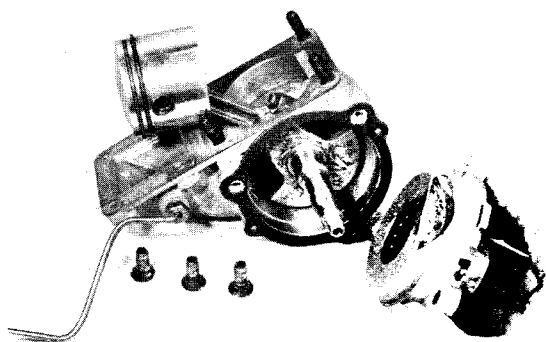

Fig. 35 — Removing/Installing Bearing Retainer
13. Remove bearing retainer from side of engine crankcase, Fig. 35.
10. Install seal in bearing retainer and install bearing retainer, Fig. 35.